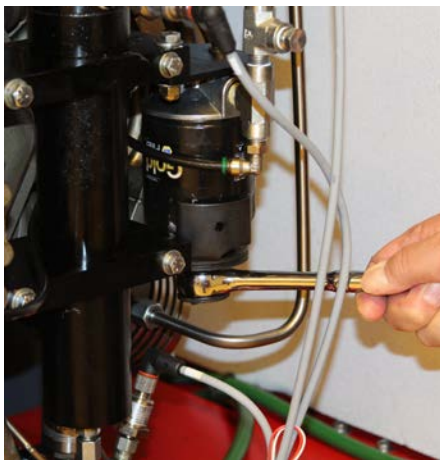

Figure 4.5-9: Oil Filter Removal
8. Use an oil filter removal tool and remove oil filter by turning it counter-clockwise. See Figure 4.5-9.